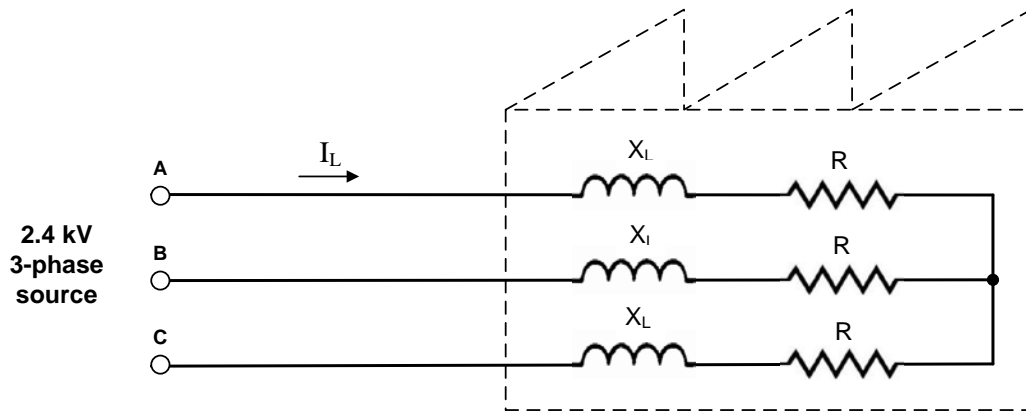

Figure 4.1
4. (a) Assume that an industrial plant can be represented by an equivalent circuit as shown in Figure 4.1. The plant is supplied by a 3-phase source with line voltage 2.4 kV. It has a power factor of 80% lagging and it draws 600 kVA of apparent power.